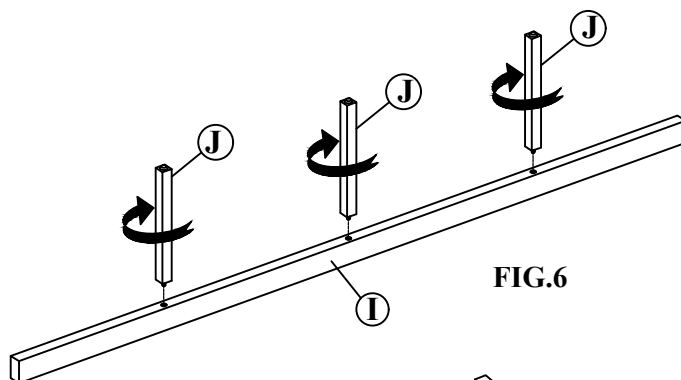

FIG.6
STEP 6: Attach the Slat Support Legs (J) to Slat Support Bar (I) as shown in FIG.6